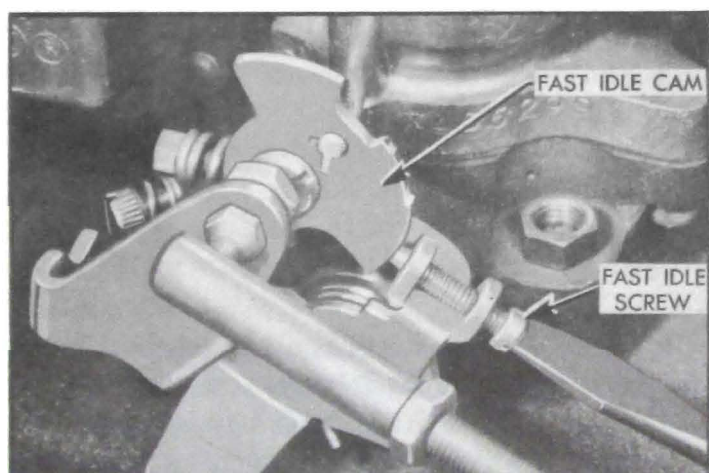

Figure 3-29—Adjusting Fast Idle Speed (on Engine)
5. With carburetor on engine, rotate fast idle cam so that fast idle screw contacts high step of cam. Then turn fast idle screw to obtain engine speed of 1500 R.P.M. with engine at normal operating temperature. See figure 3-29.